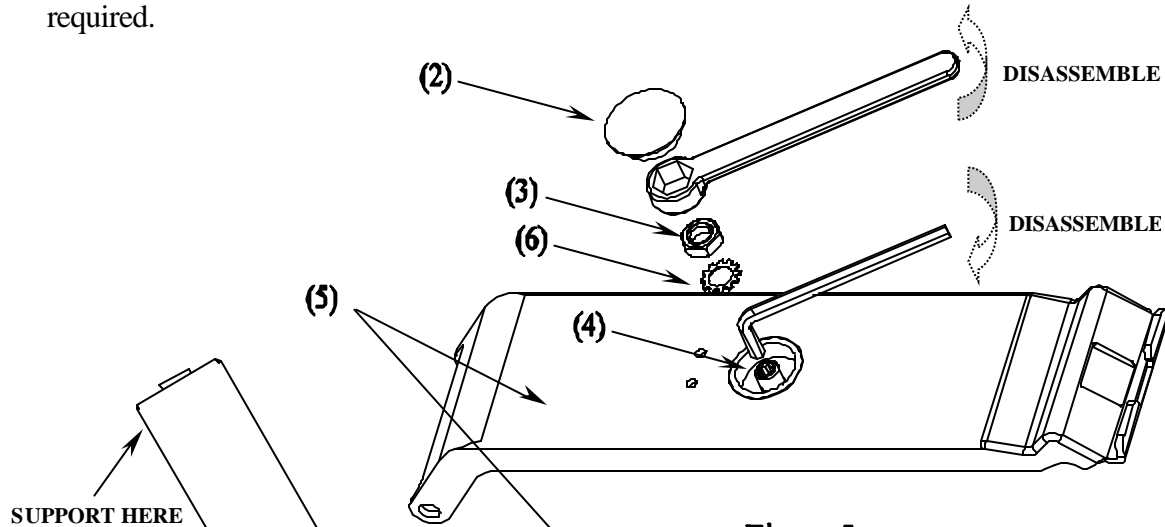
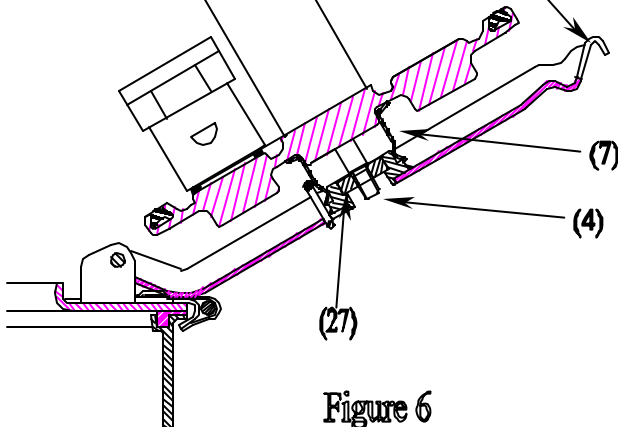

Figure 5
Figure 6
2. Open latch to expose *Yellow Plug (2)* as shown in figure 5.
3. Remove yellow Plastic Plug (2).
4. Use an 11/16 socket or box end wrench to remove *Hex Nut (3)*.
5. Remove *Star Washer (6)*.
6. Open fill assembly as shown in figure 6.
7. Place a 7/32 allen wrench in the hex socket of the *Stem (4)*.
9. Remove the *Bellow (7)*.